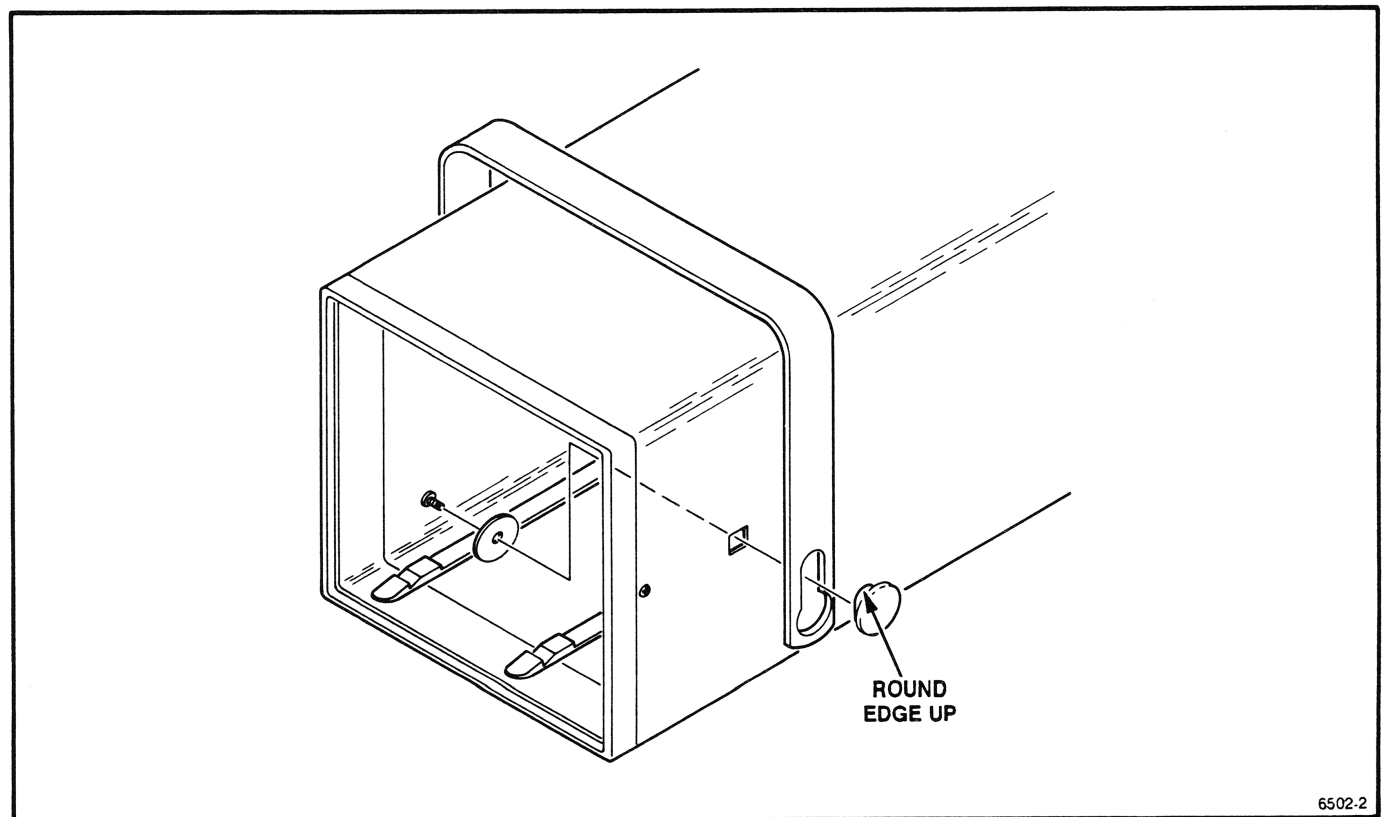

Fig. 2-2. Handle installation.
- d. From outside the power module, place the plastic locking button in the handle slot and into the square hole in the side panel, as shown in Fig. 2-2. Note that the rounded edges of the button must be facing the top and bottom panels of the power module, as shown in the illustration.